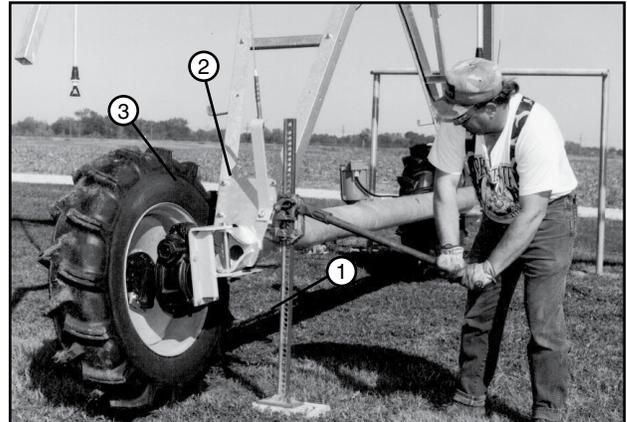

Figure 33-1 1. Jack
3. The wheels on each drive unit must be turned into the tow position. Use a jack to lift one side of the drive unit until the tire is off of the ground. See figure 33-1.